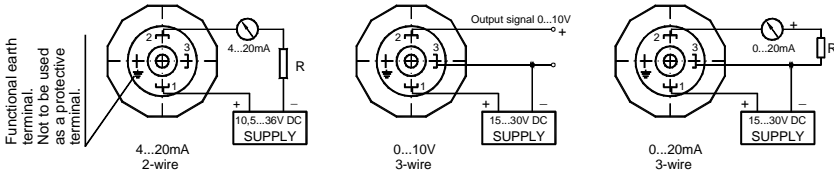

Fig. 1a. Wiring diagram for PCE-28, PRE-28 transmitters and PCE-28P probe (Not applicable to Ex version)
The methods of earthing the transmitters are shown in figures 1a, 2.
**12.5.1.** The **PCE-28P** probe should be connected as shown in figure 1a.